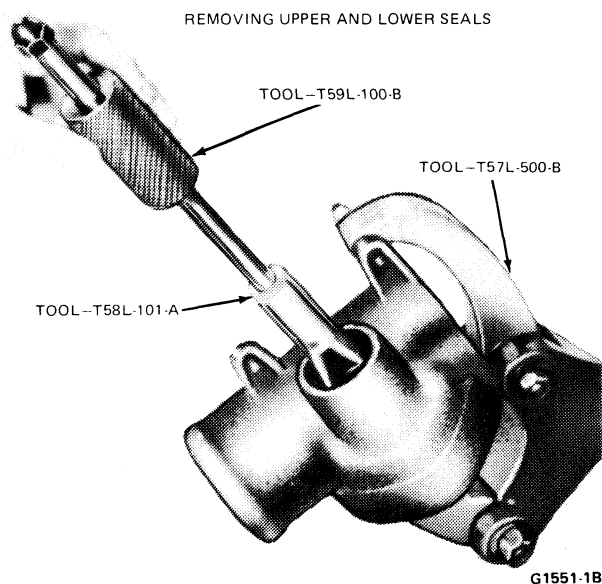

FIG. 5 Removing Upper and Lower Seals
2. Remove dust seal using tools T58L-101-A and T59L-100-B or equivalent, (Fig. 5).